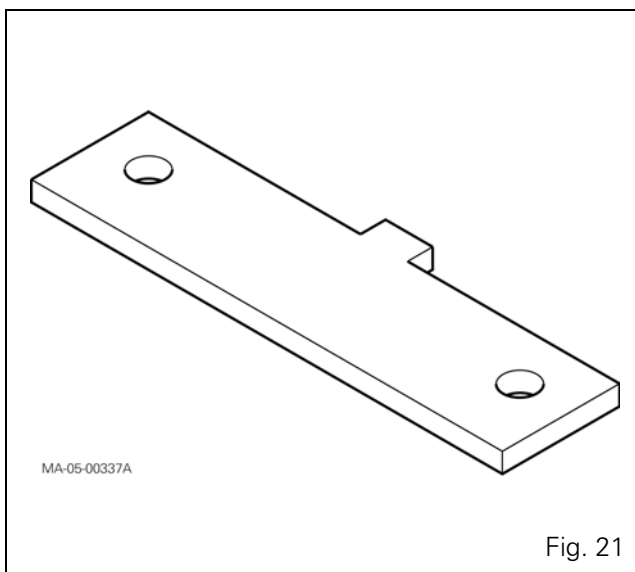

Fig. 21
- **3378240M1**: Planet carrier holding tool (Fig. 21)